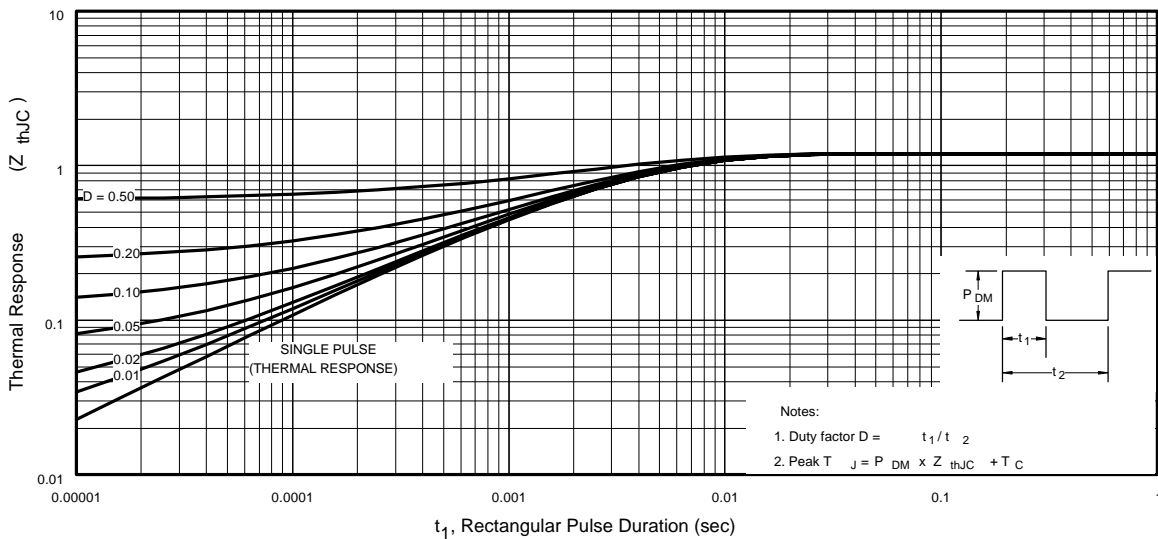

Fig 11. Maximum Effective Transient Thermal Impedance, Junction-to-Case
- ① Repetitive rating; pulse width limited by max. junction temperature. (See fig. 11)
- ② Starting $T_J = 25^\circ\text{C}$, $L = 1.5\text{mH}$